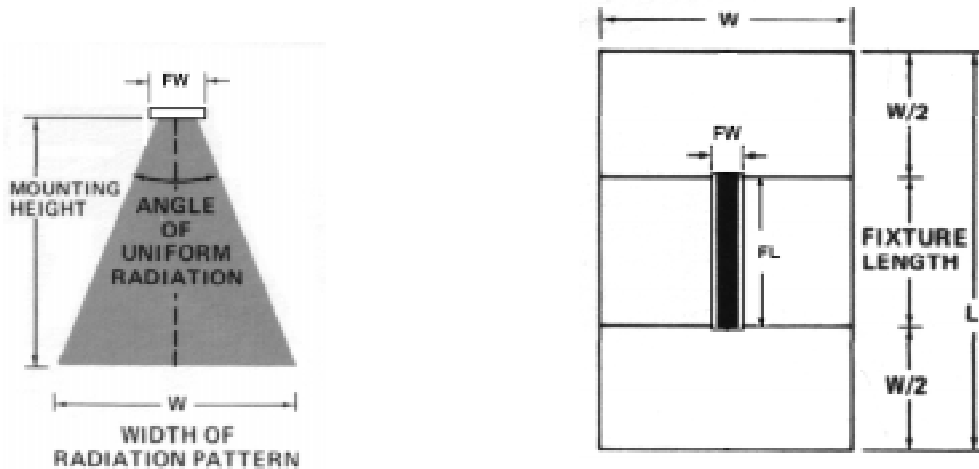

Figure 5: Radiated Pattern Area
- a.) In areas where the width dimension is 25' or less, warm personnel from at least 2 directions, tilting in the heaters so more area of the person is covered. Tilt should be such that the upper limit of the beam is about six feet above the center of the work station. Refer to Figure 5.